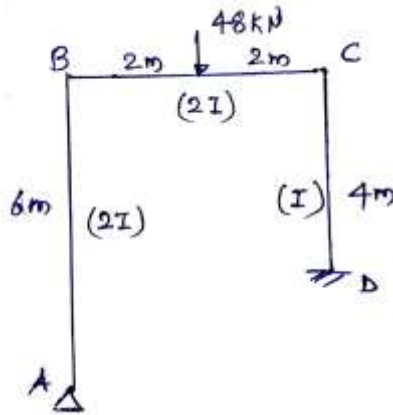

Fig.6
Q.9 Analyze the frame shown in fig.6 by using moment distribution method & draw BMD. 15
- Q.9 Analyze the portal frame shown in fig.6 using moment distribution method & draw BMD. Assume uniform flexural rigidity. 15